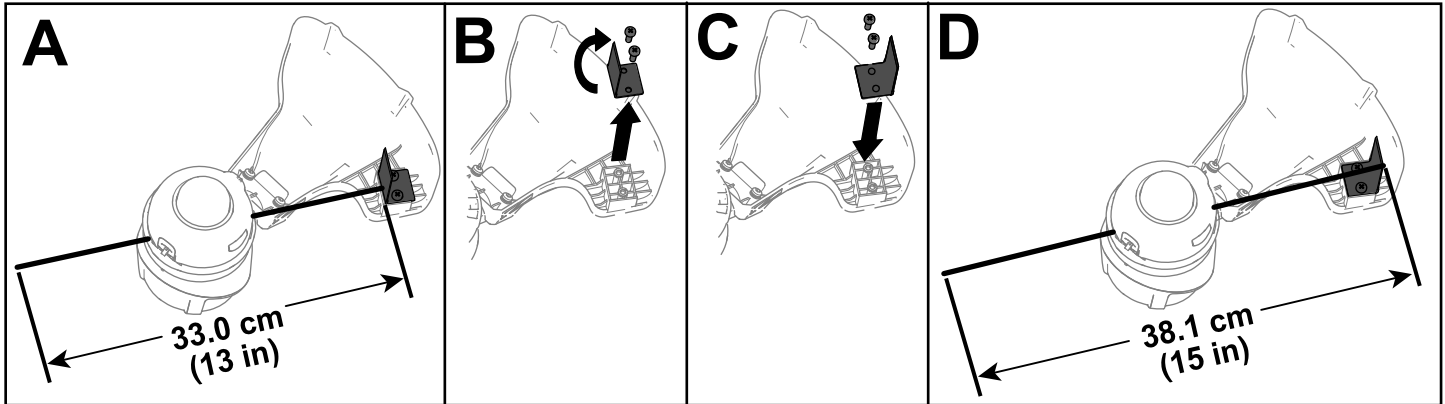

Figure 12
The trimmer comes from the factory with a cutting swath of 33.0 cm (13 inches) as shown in A of Figure 12. Refer to the following instructions to adjust the swath to 38.1 cm (15 inches) as shown in D of Figure 12.
1. Remove the swath blade from the bottom of the guard by removing the 2 screws holding it in place using the provided Allen wrench (B of Figure 12) and rotate the swath blade 180°.
2. Once the swath blade is rotated, install it onto the guard using the 2 screws previously removed (C of Figure 12).